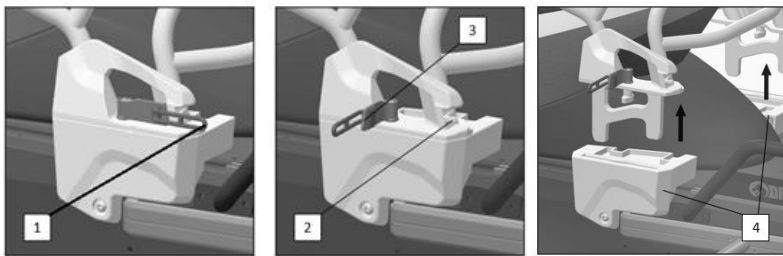

Fig.25
3. Remove the rubber clips from the left and right hooks of the backrest base (posture 1, Figure 25) (posture 2, Figure 25);
4. Rotate the lock (position 3, figure 25) to 90 ° on the left and right of the backrest;
6. Lift the backrest from the armrest and release it from the left and right brackets at the same time (posture 4. Figure 25).